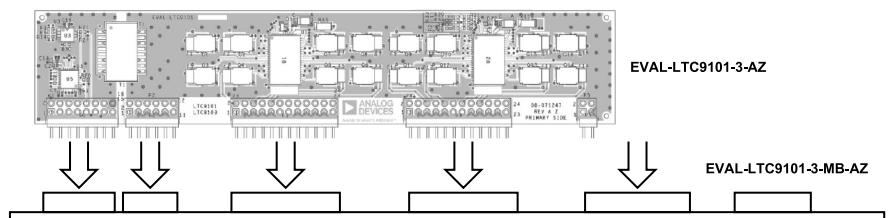
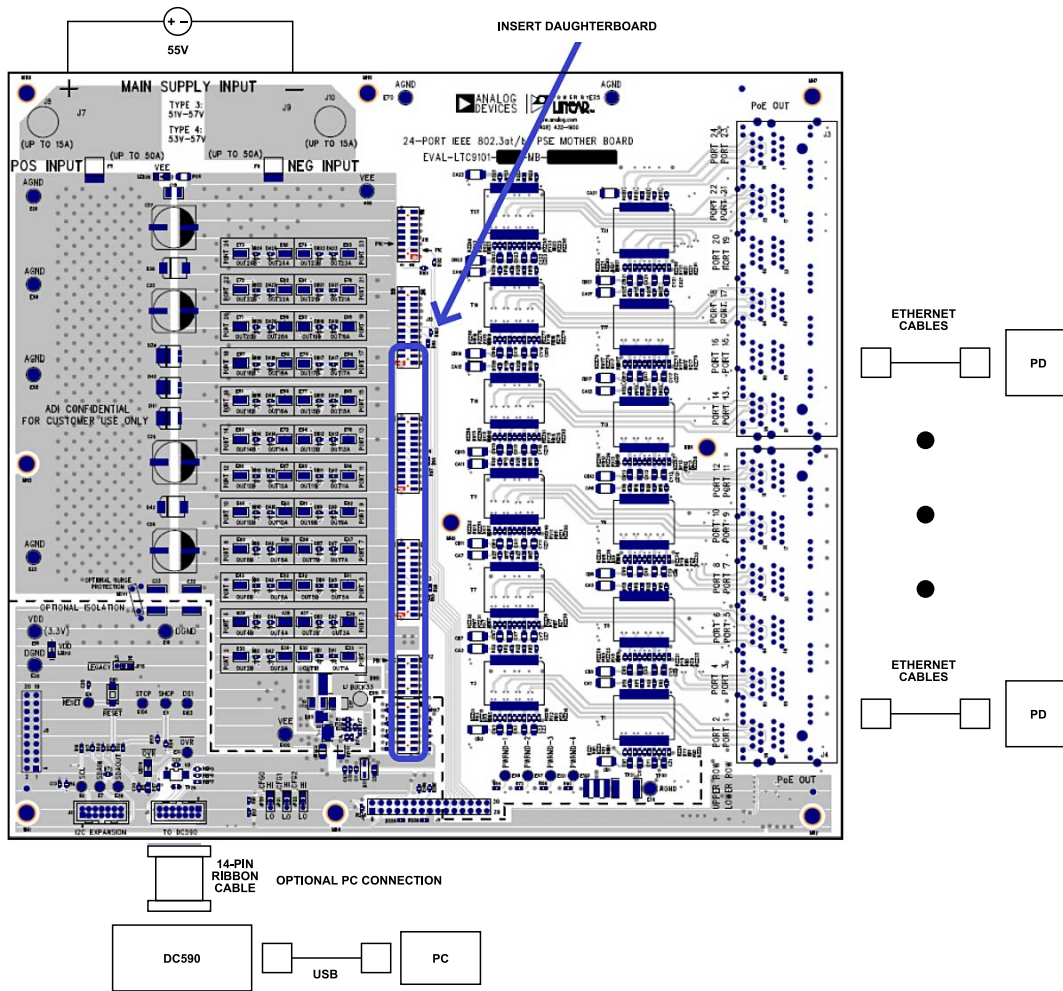
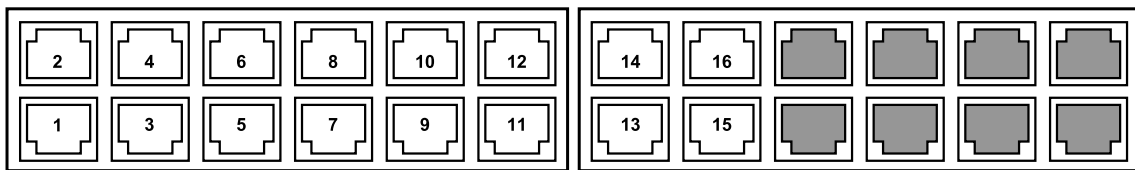

Figure 2. Inserting the EVAL-LTC9101-3-AZ Daughter Card into J1 through J5 of the EVAL-LTC9101-3-MB-AZ Motherboard
Figure 3. EVAL-LTC9101-3 Connections
Figure 4. EVAL-LTC9101-3 Port Output Map
Follow the procedure below and refer to Figure 2 through Figure 4, and Table 1 for proper equipment setup and default configuration. This default setup automatically powers all valid PDs.
3. Align pin 1 of the 16-pin male connector P1 on the EVAL-LTC9101-3-AZ daughter card with pin 1 of the 16-pin female connector J11 on the EVAL-LTC9101-3-MB-AZ motherboard as shown in Figure 2. The five male connectors and five female sockets should match. Keyed pins in J12 assist with the alignment shown in Figure 3. Carefully push the daughter card straight down until the male and female connectors are flush with each other.
4. Connect a supply to the EVAL-LTC9101-3-MB-AZ motherboard with the positive rail to POS INPUT (+) and negative rail to NEG INPUT (-) as shown in Figure 3. Use a power supply capable of sourcing the system power budget, refer to Table 1. Ramp the supply up to within 51 V and 57 V.
5. Connect up to sixteen IEEE 802.3af/at/bt PDs to the motherboard's RJ45 connectors J3 and J4, as shown in Figure 4.
The EVAL-LTC9101-3 supports sixteen, 2-pair ports. Refer to See-Figure 4 for the port output map of the EVAL-LTC9101-3.
When inserting or removing the daughter card into the EVAL-LTC9101-3-MB-AZ motherboard, verify all supplies and LEDs are off. Push the card straight down for insertion or pull straight up for removal to avoid bending the connector pins. Follow the instructions in the Quick Start Procedure for alignment and see Figure 2.